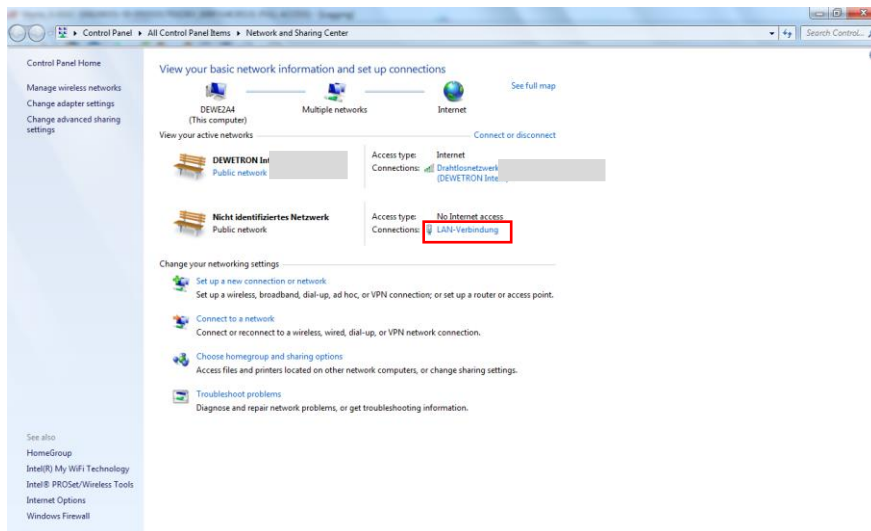

Figure 2-1
- To change the IP address of the system manually go to the Network and Sharing Center (see Figure 2-1).